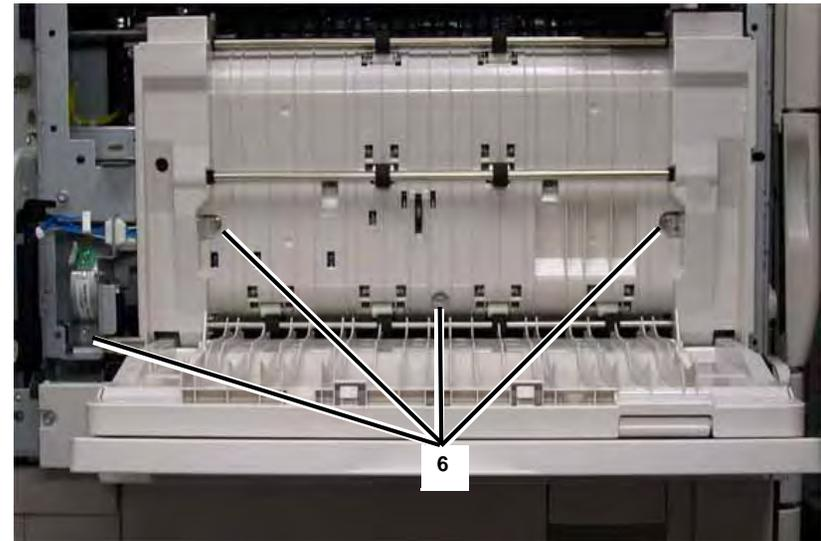

Figure 5 Removing Screws
6. Remove the Duplex Assembly from the Left Hand Cover (4 Screws) (Figure 5).